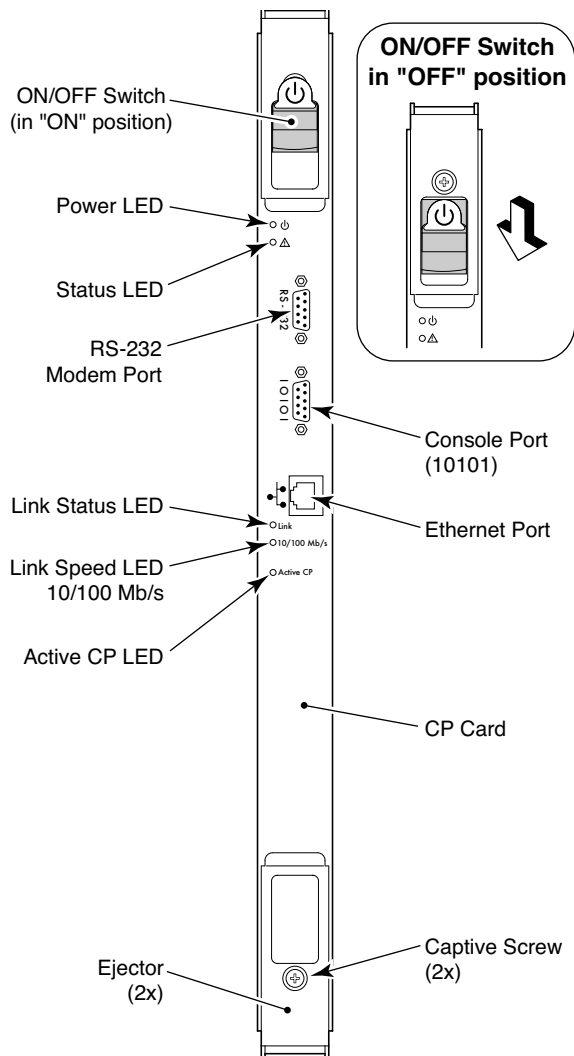

Figure 16 Front of CP card
1. Check the LED indicators on the port card (see Figure 16).